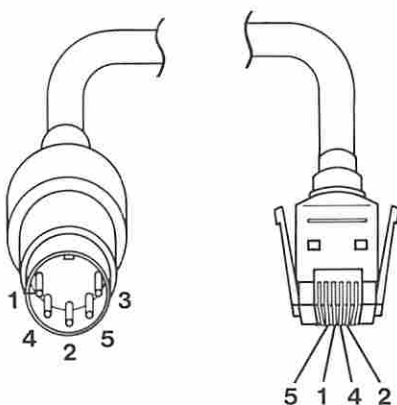

Figure 4. Continuity Check
- Check the keyboard cable for continuity as shown in Figure 4.